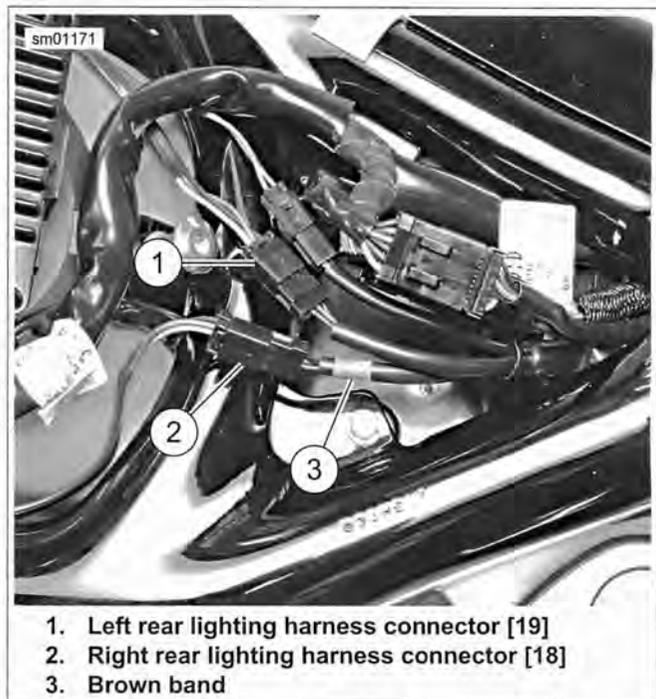

Figure 6-83. Rear Lighting Harness Connectors: XL 883N, XL 1200N/X
6. See Figure 6-83. Unplug rear lighting harness connectors [18], [19] (1, 2).